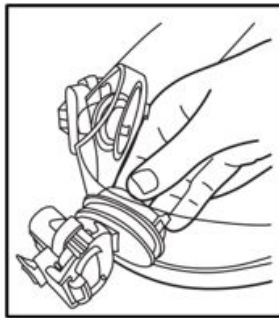
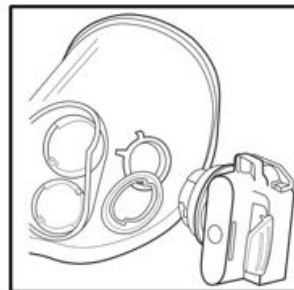

Fig.18
Fig.19
2. Remove attachment ring by rotating counter clockwise 1/4 turn (Fig. 18).
3. Remove cartridge/filter adapter from lens assembly (Fig. 19).
5. Remove cartridge/filter adapter by rotating retainer rings counter clockwise 1/4 turn (Fig. 18) and removing cartridge/filter adapter from the lens assembly (Fig. 19).